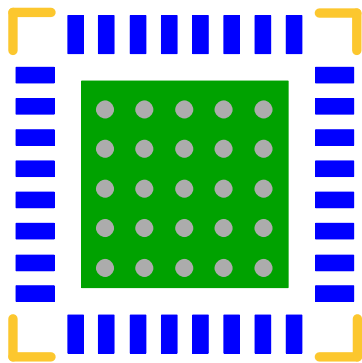

FIGURE 8. RECOMMENDED LAYOUT PATTERN FOR VIAS IN THE IC BOTTOM PAD
6. Place multiple vias under the thermal pad of the IC. The thermal pad should be connected to the ground copper plane with as large an area as possible in multiple layers to effectively reduce the thermal impedance. Figure 8 shows the layout example for vias in the IC bottom pad.